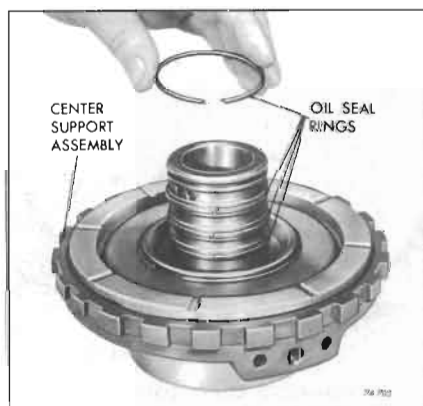

Figure 74-705
1. Remove four (4) hook type oil seal rings from center support. See Figure 74-705.